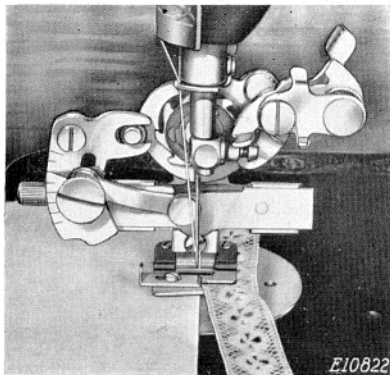
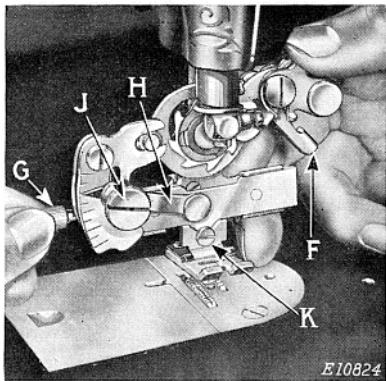
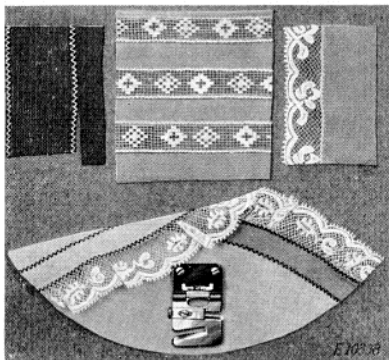

FIG. 2
FIG. 5
FIG. 9
To attach a different foot, lower the presser bar and turn the balance wheel until the slide of the attachment moves to the left, then stop the machine with the needle at its highest point. Raise the presser bar, loosen the screw (K, Fig. 5) and attach the foot desired.
The attachment is placed in operation by moving the lever (F, Fig. 5) all the way up, to the position shown in Fig. 2. The width of the zigzag stitch is determined by the sidewise movement of the material being stitched. This movement is controlled by the adjustment of the lever (H, Fig. 5). Loosen the screw (J, Fig. 5) and move the lever (H), bringing the pointer to any of the graduated marks as desired. Move upwardly for narrower width of stitch and downwardly for wider. The length of the stitch is controlled by the stitch regulator on the machine.
Plain sewing may be accomplished at any time. Simply stop the machine with the needle bar at its highest point, and move the lever (F, Fig. 5) down to its lower position against the stop.
Work of the type shown in Fig. 9 is accomplished by the use of the adjustable slotted foot, which is attached to the zigzag attachment as shown in Fig. 2. For this work, there should be a light tension on both upper and under threads.
When attaching lace as in the upper right hand sample, the body of the material is fed through the left hand slot in the foot and the edge of the lace is fed through the right hand slot as shown in Fig. 2, keeping the edges of both materials against the ends of the slots. The right hand slot has an adjustable guide which may be set to allow the lace to overlap more or less on the goods, as desired. For fine materials this guide is usually set to the right and the attachment is adjusted to make a narrow zigzag stitch.
When inserting lace, as in top centre sample, Fig. 9, the body of the
An ornamental edge similar to picot edging (see upper left hand sample, Fig. 9) may be produced by feeding the folded edge of the goods through the left hand slot of the foot, or simply feeding the goods under the foot without folding. The edge of the material is then trimmed off close to the stitching as shown. On some materials this stitch may be applied directly to the raw edge so that no trimming is necessary.